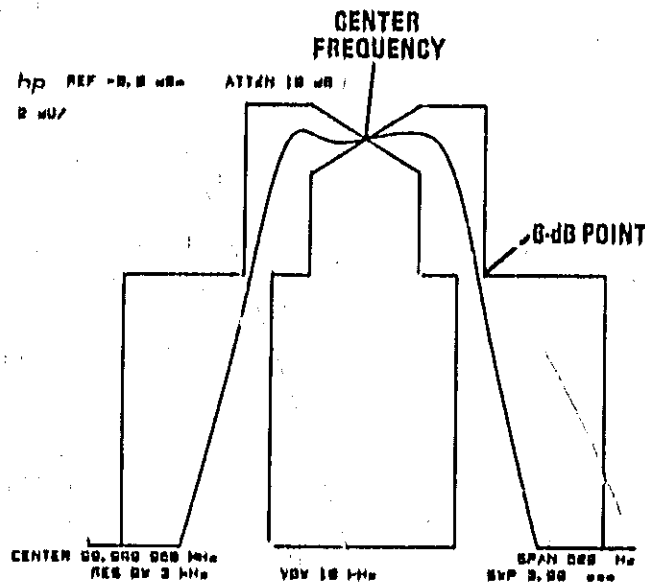

Figure 4-5. Error Limits for 200-Hz Bandpass Filter
18. On spectrum analyzer, set to 20 MHz (100 MHz). Use DATA knob to center filter response inside error limits (Figure 4-5). Displayed CENTER indication must be 20.00000 ± 0.00010 MHz (100.00000 ± 0.00010 MHz).
19. Press . Use DATA knob to place displayed signal at center frequency reference point of error limit graph (Figure 4-5). Waveform of 200-Hz filter must be within error limits. If displayed response is near error limit at bottom of CRT display, key in to allow checking of lower portion of response. Displayed response must remain within the error limit graph on the CRT display.